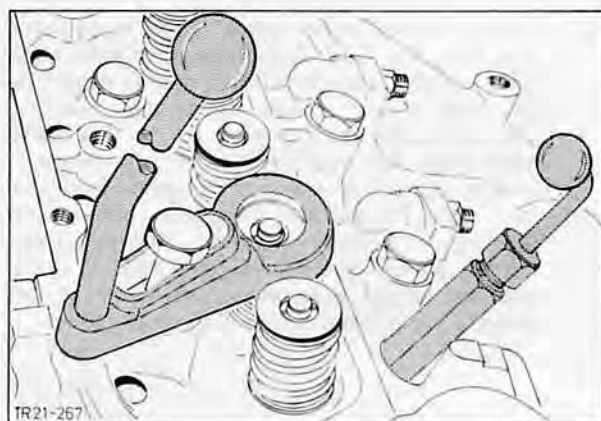

Fig. 180. Removing valve spring with Special Tools 21-056 and 21-057
4. Screw valve holder 21-057 into spark plug hole, position against valve spring retainer and lock. Fit valve spring compressor 21-056 (or 21-024 in conjunction with 21-024-02) to cylinder head, Fig. 180.